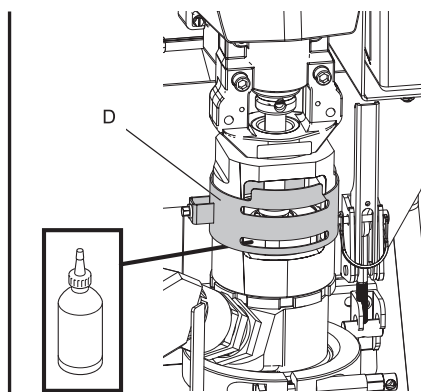

Fig. 9
3. Check Throat Seal Liquid (TSL) level in packing nut (D). Fill 1/2 full with TSL. (Fig. 9)